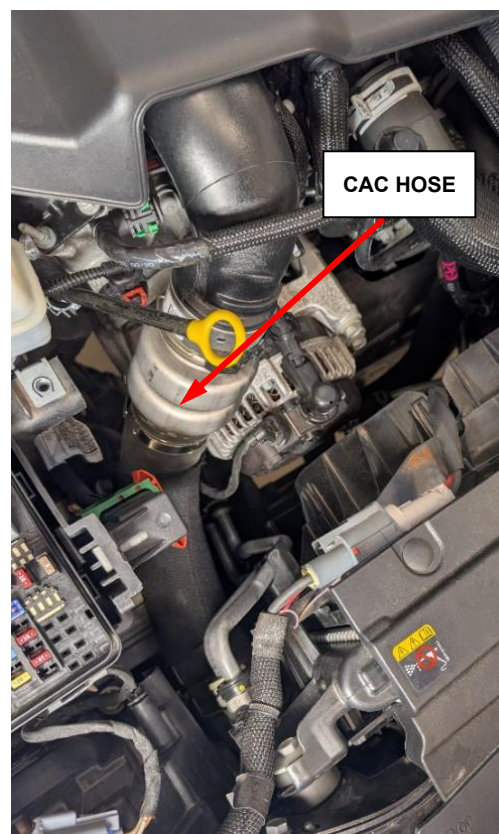

Figure B6 – CAC Hose
13. (3.0L Only) Remove the Charge Air Cooler (CAC) Hose (Figure B6). Refer to the detailed service procedures available in DealerCONNECT/ Service Library under: Service Info> 09 - Engine, 3.0L Turbo Diesel / Turbocharger System / COOLER and HOSES, Charge Air / Removal and Installation.